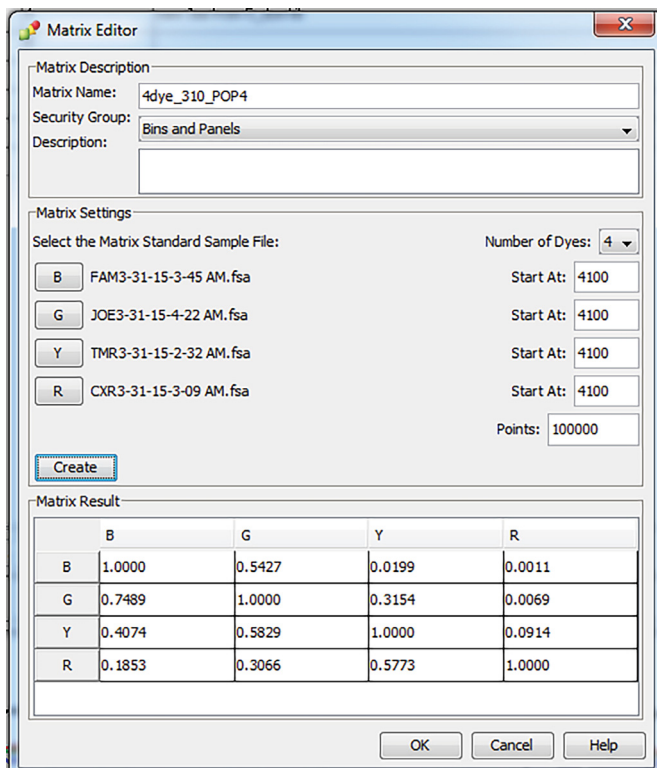

Figure 1. The Matrix Editor.
6. Define the new matrix in the Matrix Editor (Figure 1).
Note: The Matrix Name, “Start At” values and Matrix Result values shown in Figure 1 are instrument-specific and will change depending on your instrument.